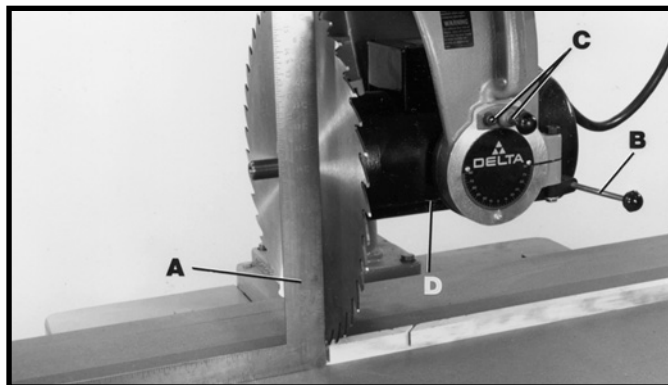

Fig. 36
2. Place a square (A) Fig. 36, against saw blade. Be sure square is on the table surface, and between the gullets of the teeth, not against the saw teeth.
3. Loosen bevel clamp handle (B) Fig. 36, and loosen two screws (C).
4. Tilt the motor assembly (D) Fig. 36, until square is flush against saw blade and tighten bevel clamp handle (B) Fig. 36 to hold position. Then tighten two screws (C).